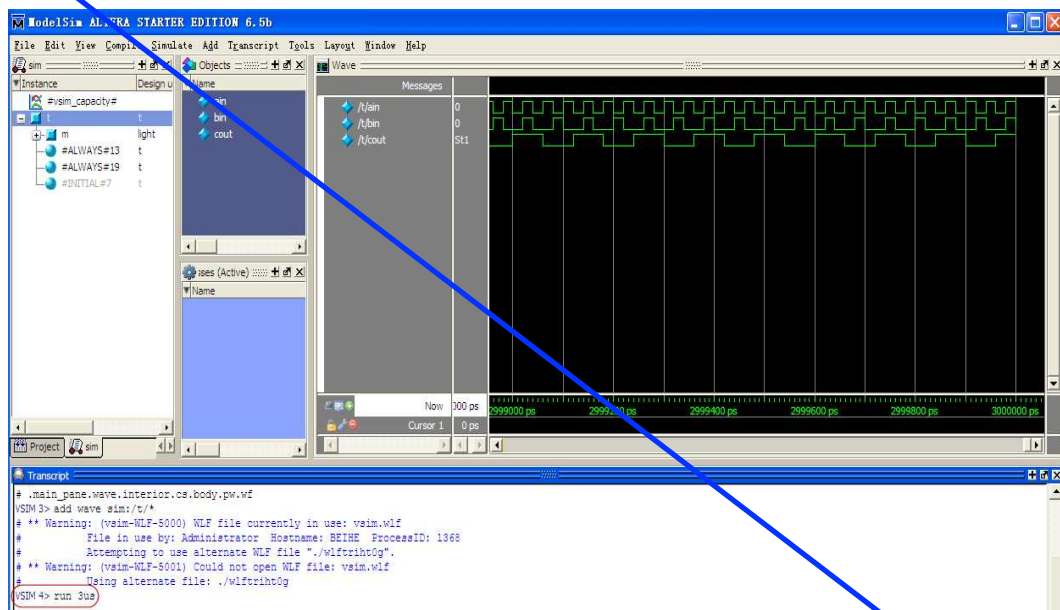

Figure 40. Waves Drawn in Wave Window
a. Enter **run 3us** at the **VSIM>** prompt in the Transcript window (Figure 40).